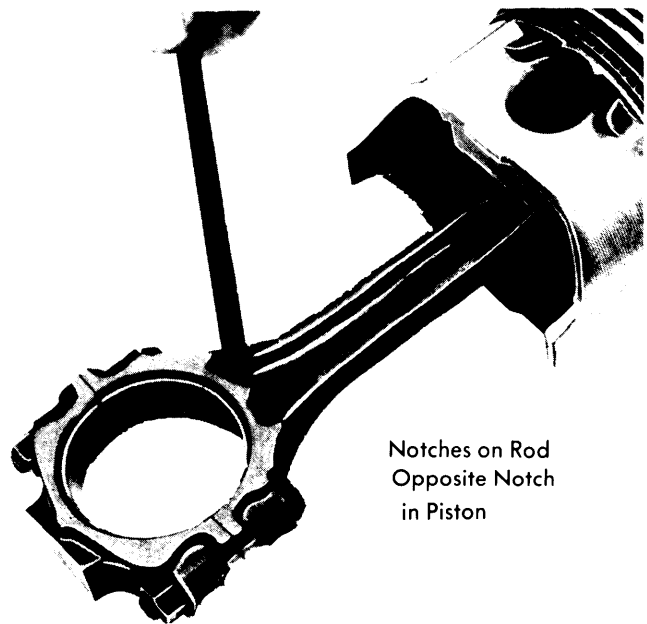

Fig. 4 Connecting Rod & Piston Assembly
2) Install ring compressor on piston, ensuring ring gap spacing does not change. Using suitable tool, gently tap piston and rod assembly into correct cylinder bore, taking care to avoid damaging cylinder wall or crankshaft. **NOTE** — Notch in top of piston faces front of engine. Raised notch on side of rod at bearing end should be opposite notch in piston when installed (see Fig. 4).